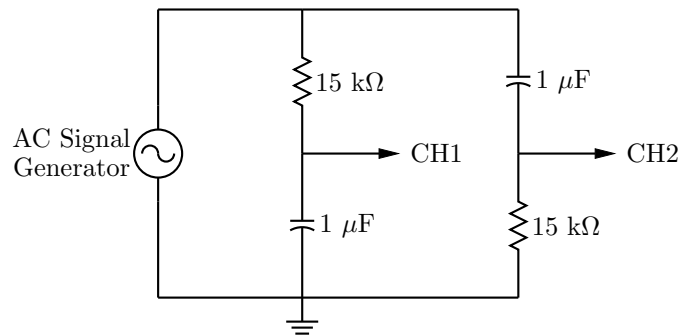

Figure 3:  $\pi/2$  radian phase shifting circuit
- i. Connect the circuit in Figure 3. Adjust the AC signal generator to 100 Hz, 8Vpp. From Figure 3, connect output from 1  $\mu$ F to CH1 and output from 15 k $\Omega$  to CH2 of the oscilloscope. Press the AUTO button for a quick setting of V/div and sec/div. To see both output signals, make sure that both CH1 and CH2 buttons are pressed. Draw these two signals in the graph below with the information of V/div and sec/div: